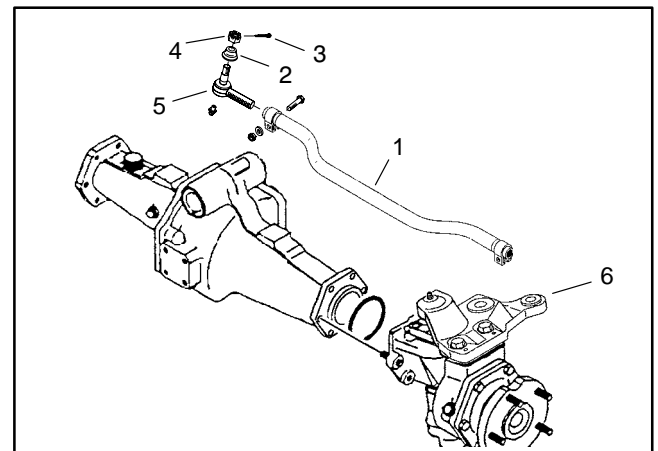

Figure 10
9. If required, remove tie rod ends from steering arms on rear axle (Fig. 10). Remove the cotter pins and castle nuts from the tie rod ball joints. Use a ball joint fork and remove the tie rod ends from the axle steering arms.
3. If removed, install the tie rod to rear axle (Fig. 10). Tighten ball joint castle nuts and install new cotter pins.